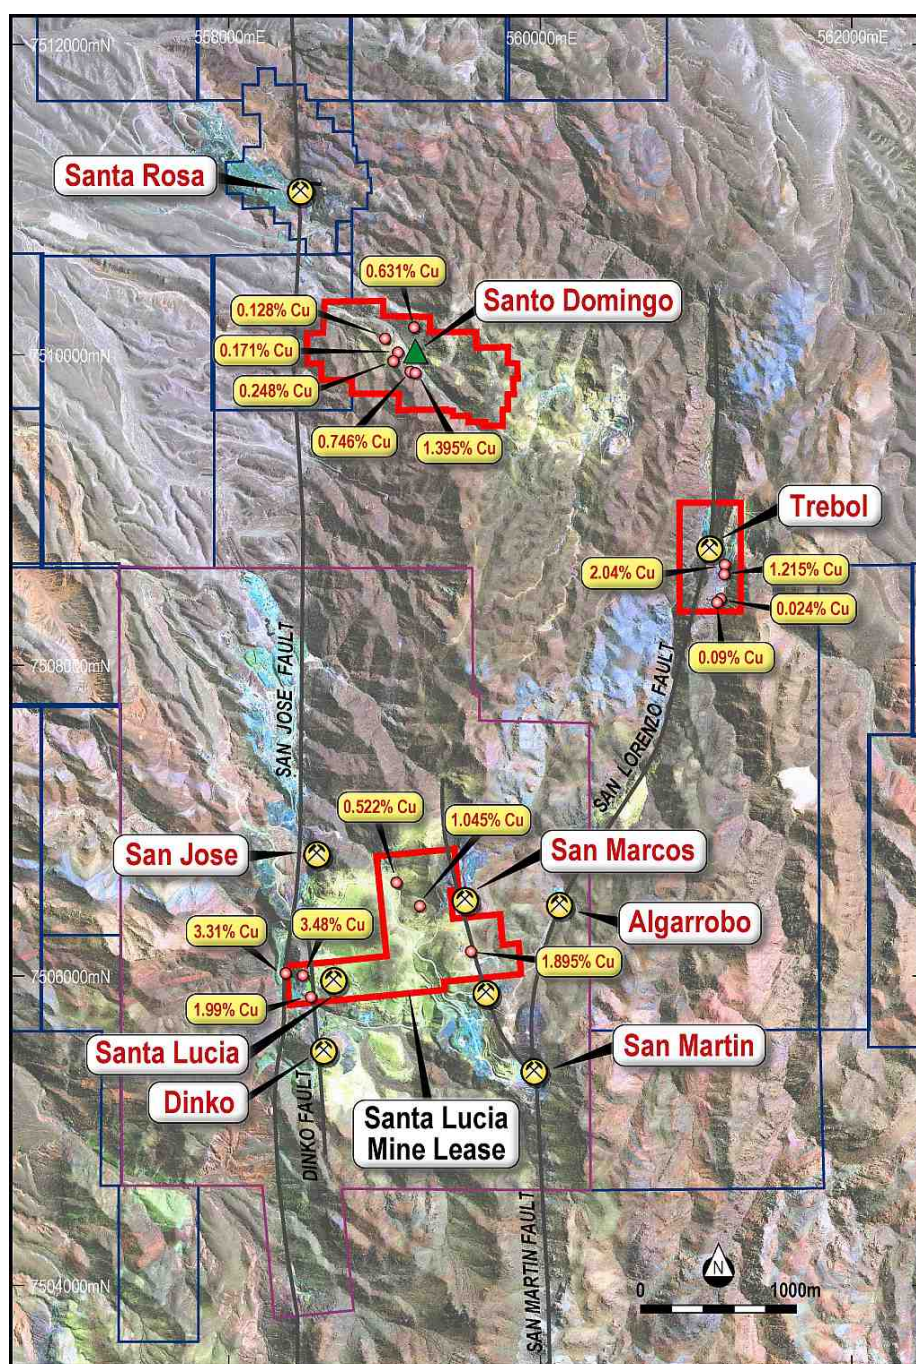
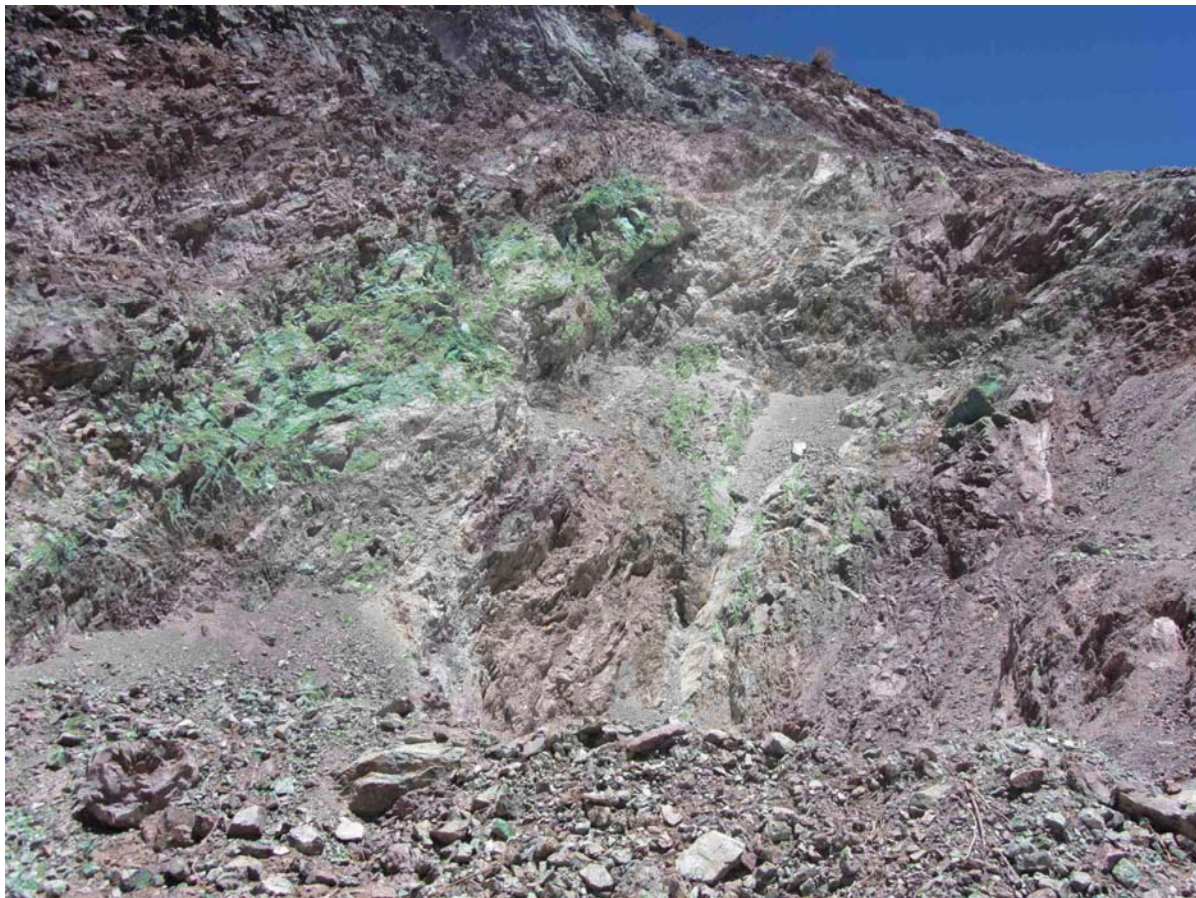

Figure 2 Location of Minera Santa Lucia mining leases and copper assays
Figure 5 Santo Domingo copper oxide mineralisation
The private Chilean mining company, Minera Santa Lucia, owns three mining leases within the Tuina mining district as shown in red in Figure 2 (Santa Lucia, Santo Domingo, and Trebol). All three leases are within the Tuina copper district and are adjacent or near to the mining leases already held under option or agreement by RMG.
There are two copper oxide mines in production on the Minera Santa Lucia leases, at Santa Lucia and Trebol, with numerous copper oxide and sulphide occurrences across all the lease areas. The locations of these mine sites are shown in Figure 2, and Figures 3, 5 and 6 show examples of the copper oxide mineralisation at Santa Lucia, Santo Domingo, and Trebol respectively.
The assay results of rock chip sampling by RMG geologists³ along the main copper mineralised zones within the three leases are shown in Figure 2 and Table 1 (Appendix One) and confirm the presence of strong copper oxide mineralisation at surface and chalcocite/bornite mineralisation in the deeper portions of the small mines.
- Figure 2 shows the location of the rock chip sample sites, and the rock chip copper grades for all three leases.
The mineralisation at Santo Domingo is hosted along a north-west striking fault structure extending north-west from 3rd party owned underground and open pit mining operations. RMG's rock chip sampling (for locations see Figure 2 and Appendix One) and mapping shows the mineralisation to be andesite hosted and occur as both fault breccia and andesitic breccia manto style mineralisation. There is no drilling on the lease area and its potential for significant mineralisation is unquantified. Surface outcrops of the copper mineralisation, such as shown in Figure 5, show significant copper oxide mineralisation to widths of 15m and copper grades to 1.4% Cu (values are annotated in Figure 2).
The copper oxide mineralisation at Trebol has been mined by small open pit and underground mine development. There has not been any drilling on the lease area. The copper mineralisation is hosted by both fault breccia and sediment hosted manto style mineralisation. The mineralisation is dominated by malachite and chrysocolla at surface over widths of up to 35m. Figure 6 shows one of the mine faces at Trebol, and Figure 2 shows the locations and values of RMG's rock chip samples to 2% Cu.